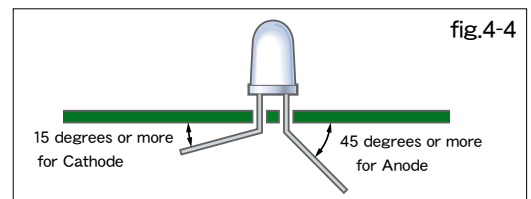

fig.4-4
- ④ With regard to using an inserter (automation), please adjust the insertion pressure to the lowest possible setting, and minimize the clinch angle as far as it can hold the component. Stanley recommends the pusher pressure of 0.2 MPa or less, the clinch angle of 45 degrees or more for the inserted Anode lead and the clinch angle of 15 degrees or more for the inserted Cathode lead. (The polarity of BR products is reversed.) (fig.4-4)
- ⑤ In case of flush mount, it is recommended to solder in movable resin situation, and please avoid stress to the lead after clinch. In case of mounting to large boards or warped boards, each LED's clinching condition varies according to its mounting point in the boards, and excessive stress may damage its resin parts.